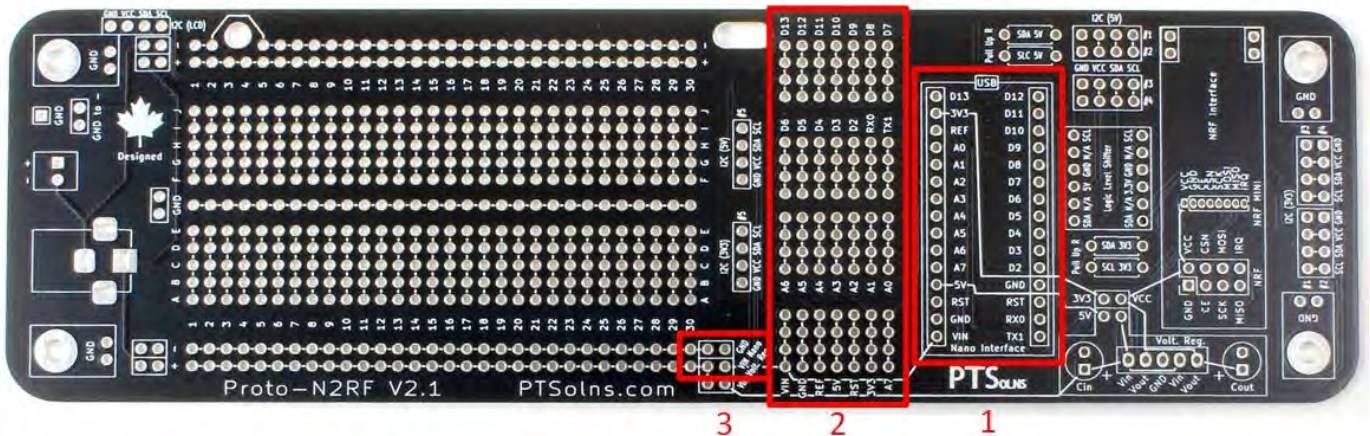

Figure 5: Nano microcontroller interface on the Proto-N2RF. 1) Footprint for the Nano microcontroller, 2) Rows of 4-pin breakout section
- 1) Use the Vin and GND found within the breakout section (shown as item 2 in Figure 5).
- 2) Use it 2-Pin power rail connections for Vin and GND (shown as item 3 in Figure 5).
The Nano microcontroller interface, the corresponding rows of 4-Pin breakout section, and the powering options are shown in Figure 5.